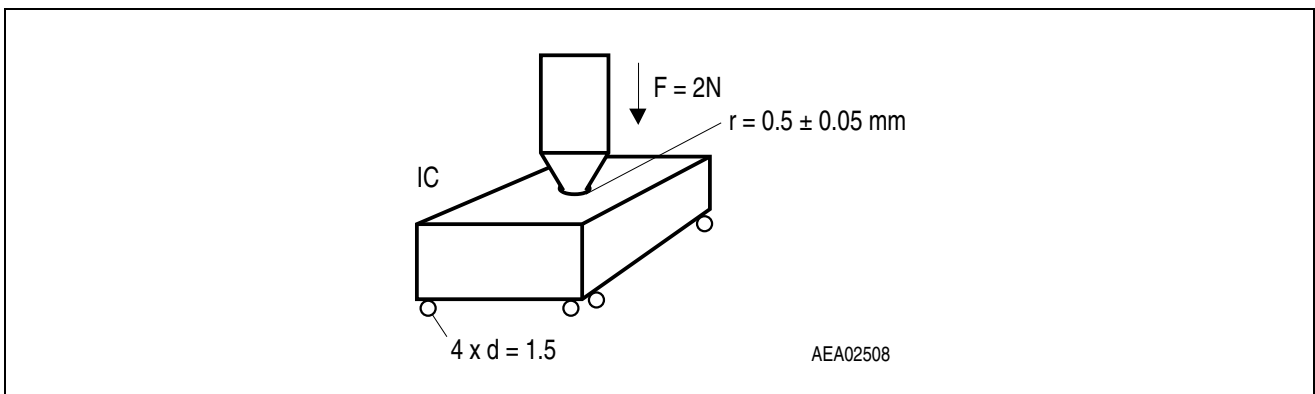

Figure 7 Setup for Piezo Measurements
- 6) For definition see Figure 7.